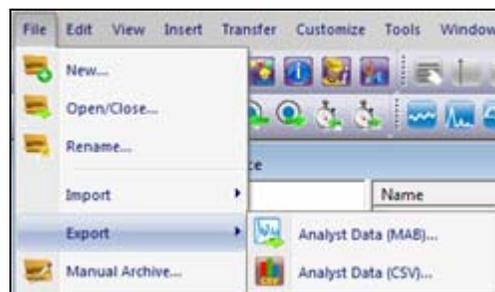

Figure 5. Export data
- Now, click **File > Export > Analyst Data (CSV)...** [Figure 5]